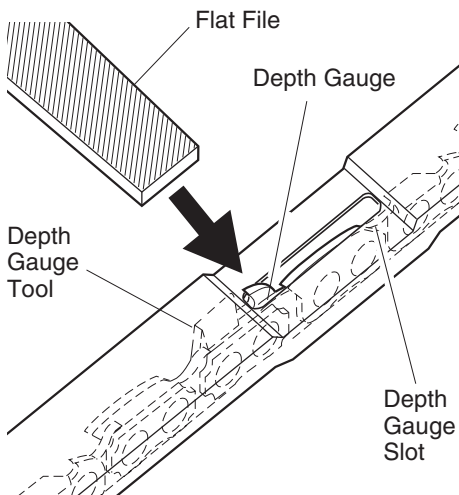

Figure 21 - Depth Gauge Tool On Chain
1. Place depth gauge tool (.025") firmly across top of two cutters. Make sure depth gauge enters slot in depth gauge tool (see Figure 21).